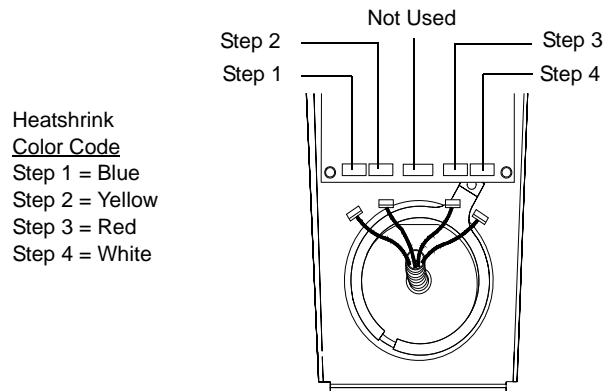

Figure 2-8: Disconnecting VL5/VL5B LCB Motor Wires
- a. At LCB, disconnect four 4-pin MTA connectors at STEP 1 through STEP 4. **Figure 2-8.**